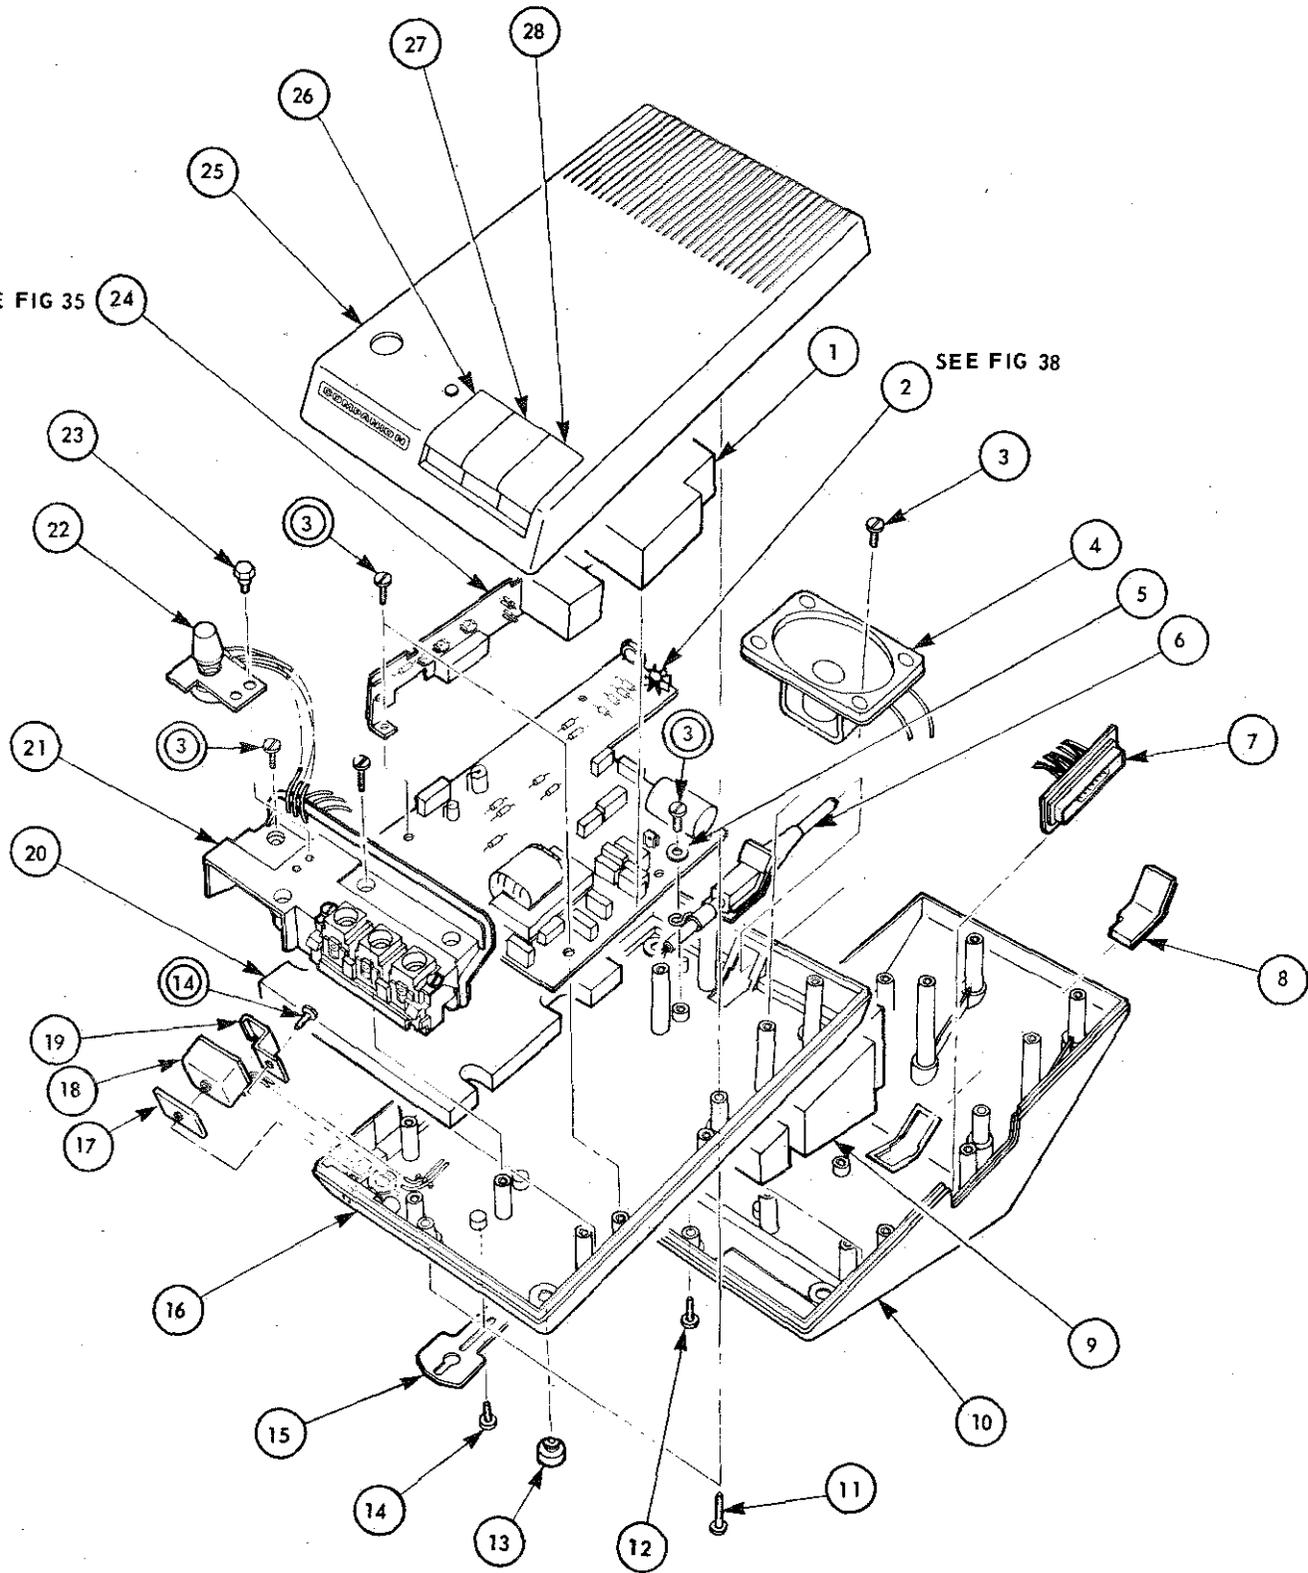

Fig. 36 - Exploded View of QUS1A, QUS1B and QUS1C HFU
9.01 An exploded view, depicting both COMPANION and LOGIC configurations of the hands-free unit is provided in Fig. 36. An associated parts identification list which identifies
7. Lead Assembly not shown on Fig. 36, refer to Fig. 6.